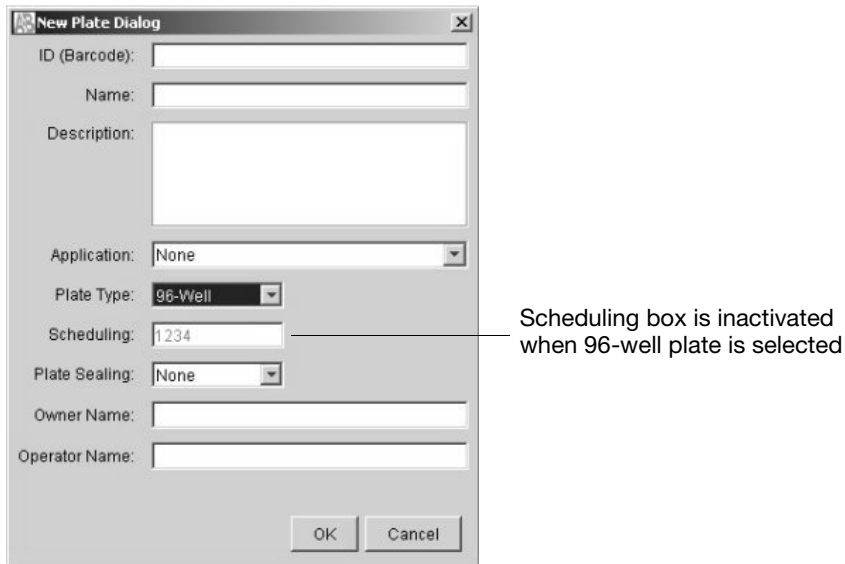

Figure 2-2 96-well plate type selected in New Plate dialog box
2. Click **New** to open the New Plate Dialog box (see figures 2-2 and 2-3 on page 2-7).